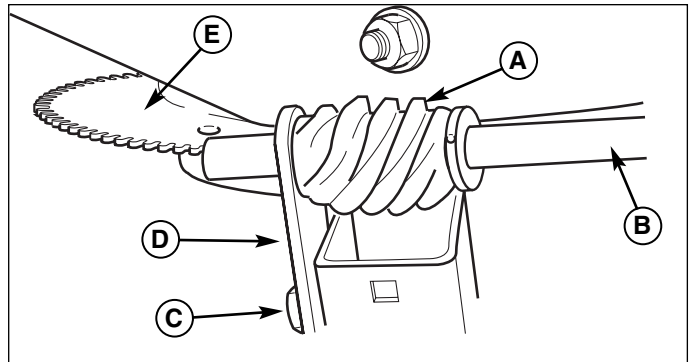

Figure 22. Discharge Control
If the discharge control is difficult to operate, first lubricate the pinion gear (A, Figure 22) and ring gear (E). The pinion gear can be adjusted by loosening the bolts (C) which hold the pinion gear bracket. If the pinion gear is too tight against the ring gear, move it away slightly and then retighten the bolts. Check operation again. If discharge control is still difficult to operate, see Chute Direction Control Rod Gear Adjustment.